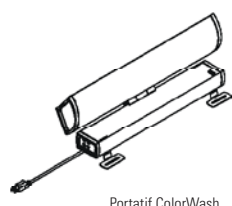
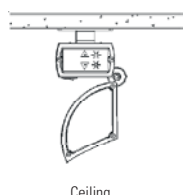

FIG.1
FIG.2
Note 1: This portable luminaire (Fig.1) uses LED (light emitting diode lamps), which require no maintenance. Designed for residential, commercial and industrial applications, non hazardous dry locations, ceiling (Fig.2), wall-mounted (Fig.3) and floor applications (Fig.4).
B. CEILING or WALL MOUNT INSTALLATION: (Fig.2)